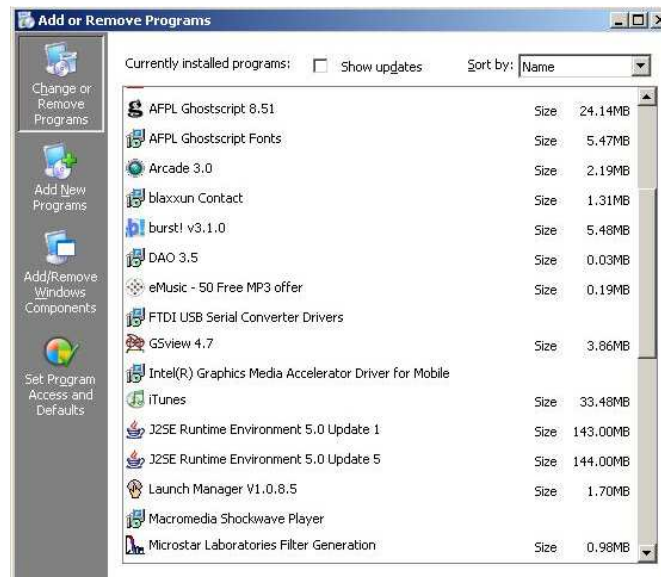

Figure 22: Add or Remove Programs
3. Double click on Add or Remove Programs, obtaining a screen like figure 22.
Figure 22 lists the FTDI drivers, so they are installed. Similarly, the Tcl/Tk program for the unit should be shown on the same list under Syscomp.
1. On the Add or Remove Programs list of figure 22, find the entry `System`. Double click on it to obtain the `System Properties` screen of figure 23.